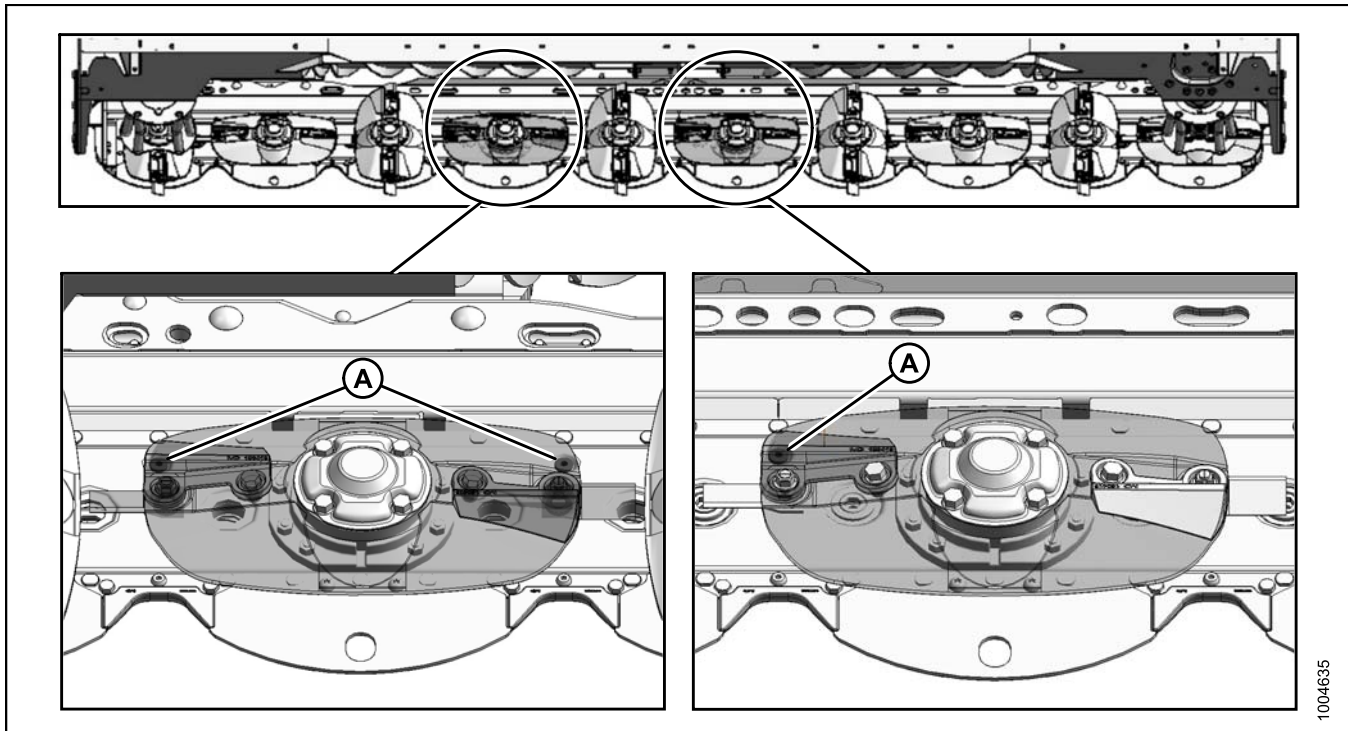

Figure 7.20: Cutterbar Filler Plug Locations
9. Locate one of the three filler plugs along the top of the cutterbar. Refer to Figure 7.20: Cutterbar Filler Plug Locations, page 124.
10. Clean around either filler plug (A) and remove one plug with an 8 mm hex Allen L-key.